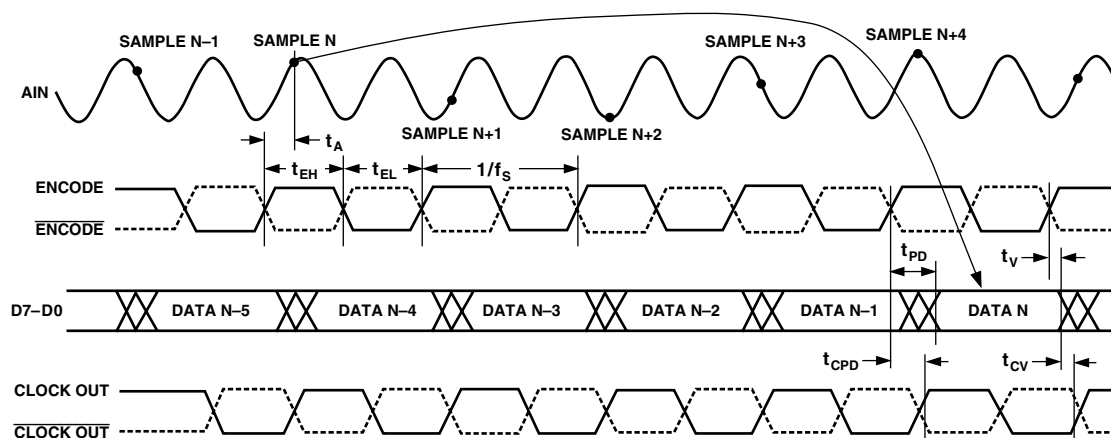

Figure 1. Timing—Single Channel Mode
Two data formats are possible in Dual Channel output mode, parallel data out and interleaved data out. Pin 75 I/P should be LOW for parallel format and HIGH for interleaved format. Figures 1 and 2 show the timing requirements for each format. Note that the Data Sync input, (DS), is required in Dual Channel output mode for both formats. The section on Data Sync describes the requirements of the Data Sync input.